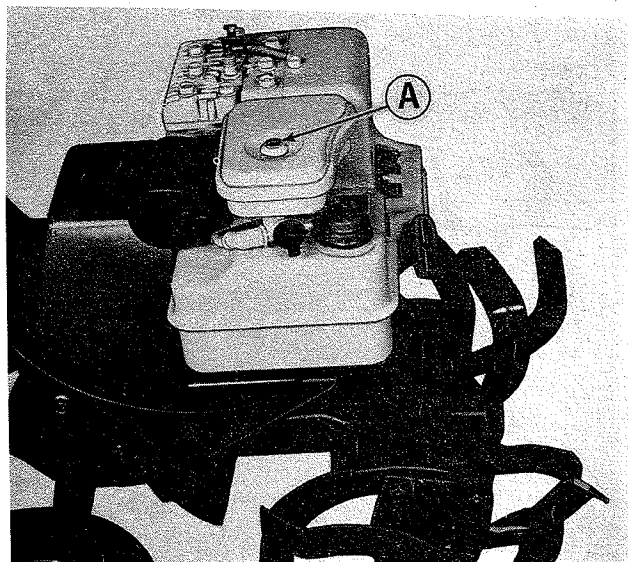

Figure 15. Right side of Roticul.
Every 25 hours or more often under dusty operating conditions the engine air cleaner should be serviced. See figures 15 and 16.
1. Remove the air cleaner holding screw, (Figure 15, Item A).
7. Assemble the parts. Install the air cleaner on the engine and secure with the mounting screw (Figure 15, Item A).